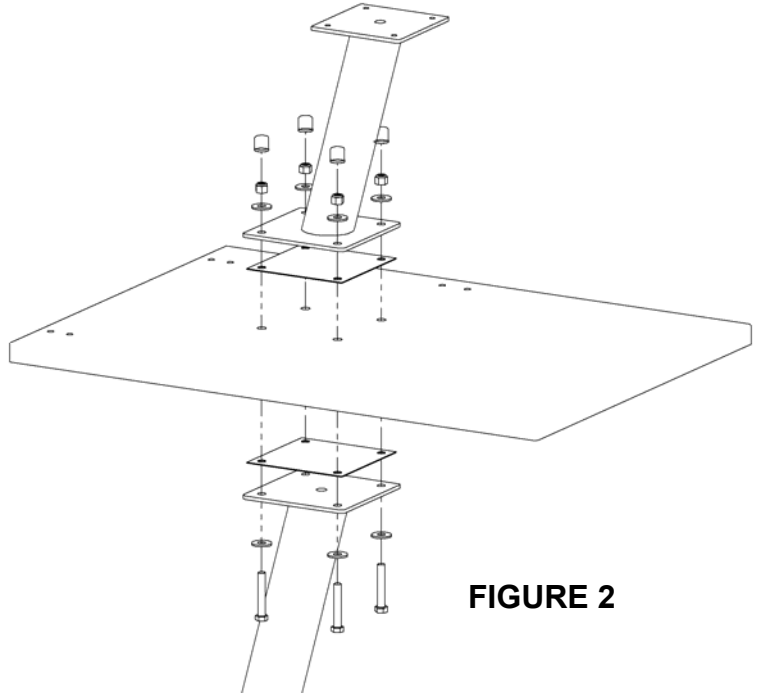

FIGURE 2
2. Attach the footboard and the seat pedestal assembly to the main pedestal using (4 ea.) $\frac{1}{2}$ "x3" hex head bolt, $\frac{1}{2}$ " flat washer, $\frac{1}{2}$ " hex nut, and $\frac{1}{2}$ " plastic nut cap as shown in **FIGURE 2**. A rubber gasket is placed both above and below the footboard, in-between the stainless steel plates and the footboard.